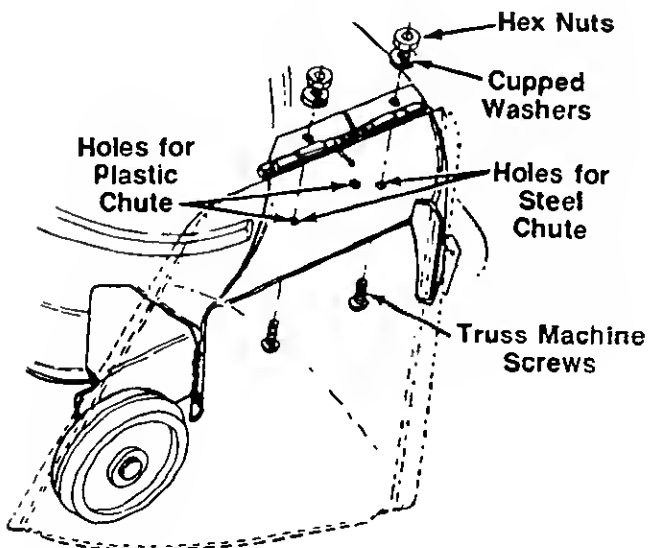

FIGURE 8.
The chute deflector on your unit may be either plastic or steel. Assemble the chute, using the holes shown in figure 8.
2. Place the chute deflector in position as shown in figure 8. Secure with hardware just removed.